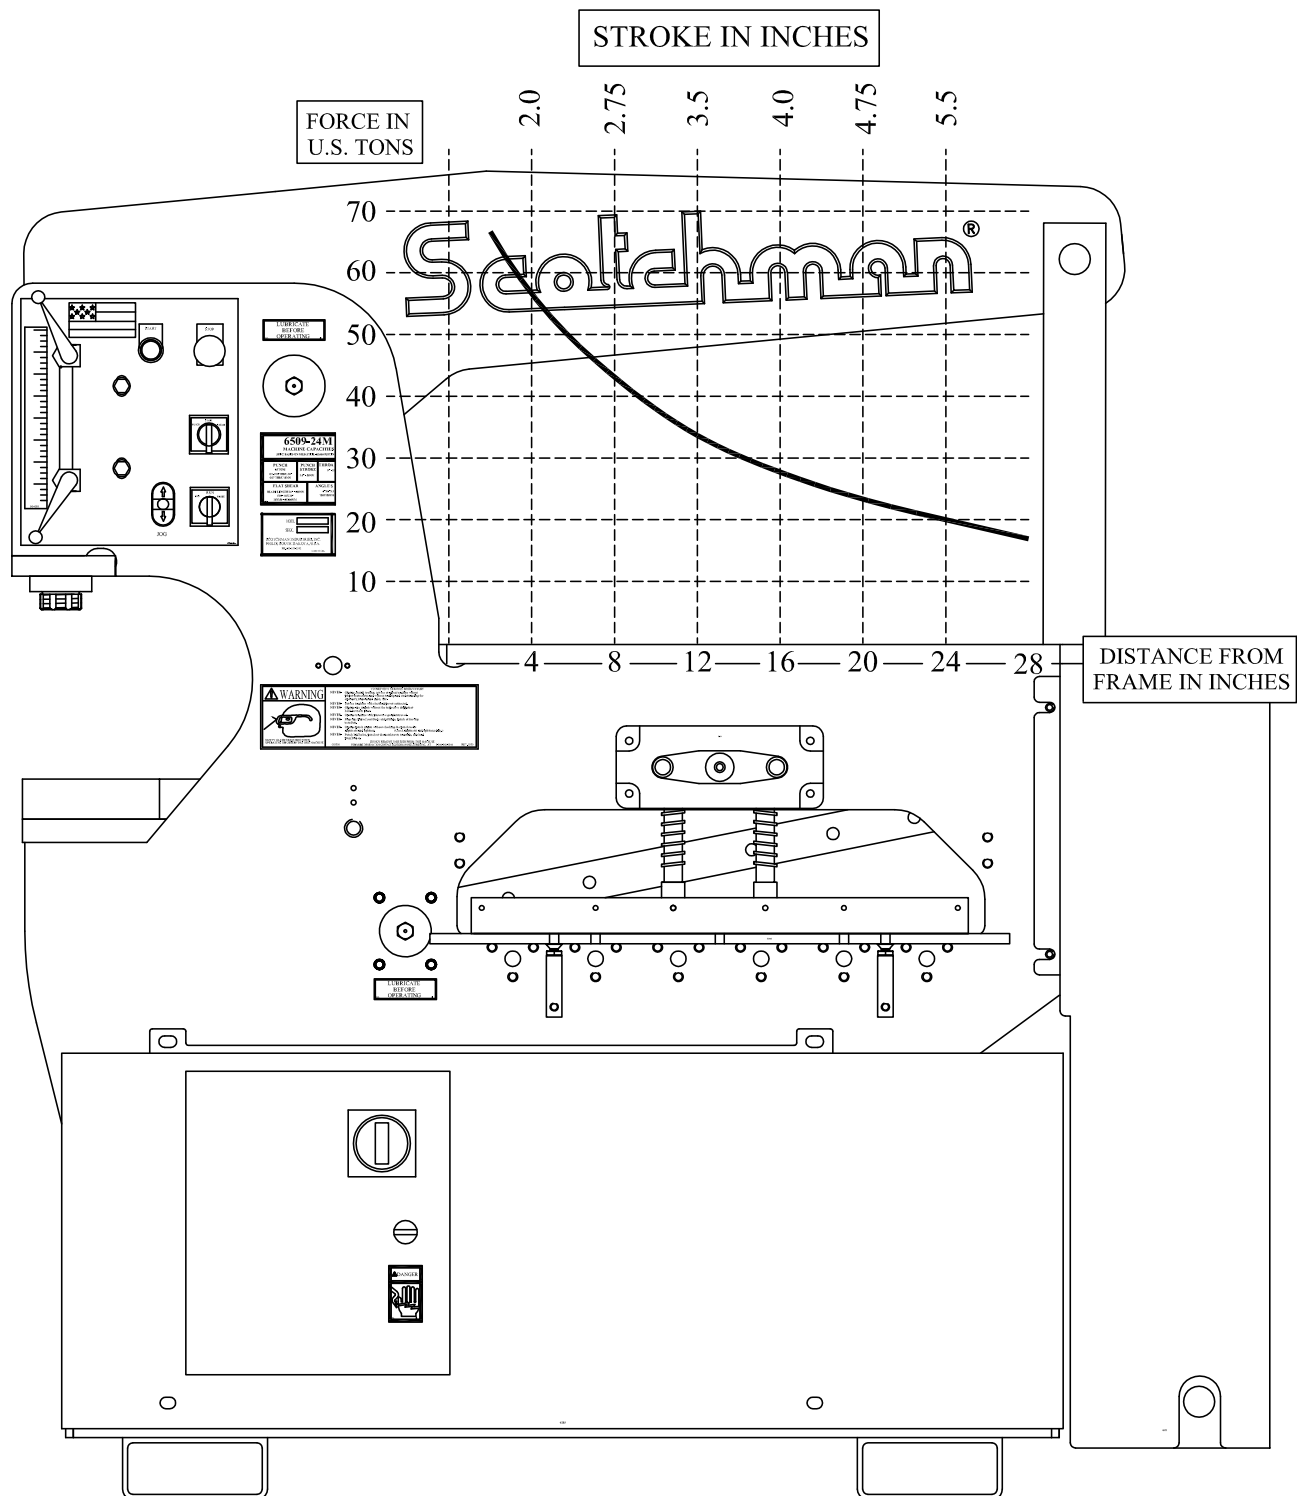

FIGURE 13
**At the beginning of the section, there is a graphical illustration of the available tonnage at locations along the Upper Arm. SEE FIGURE 13 ON THE FOLLOWING PAGE.**